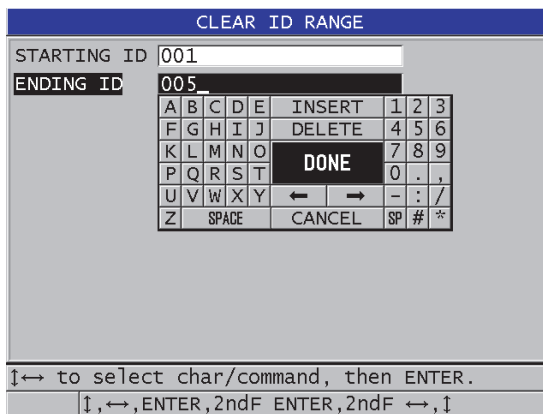

Figure 11-21 Deleting the data of an ID range in the active file
3. In the **CLEAR ID RANGE**, screen (see Figure 11-21 on page 208):